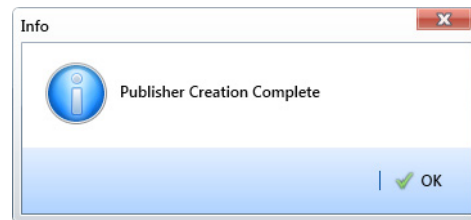

Figure 17-3. Publisher Creation Complete
- 4 Click  **OK** when the message *Publisher Creation Complete* displays (Figure 17-3, page 780).